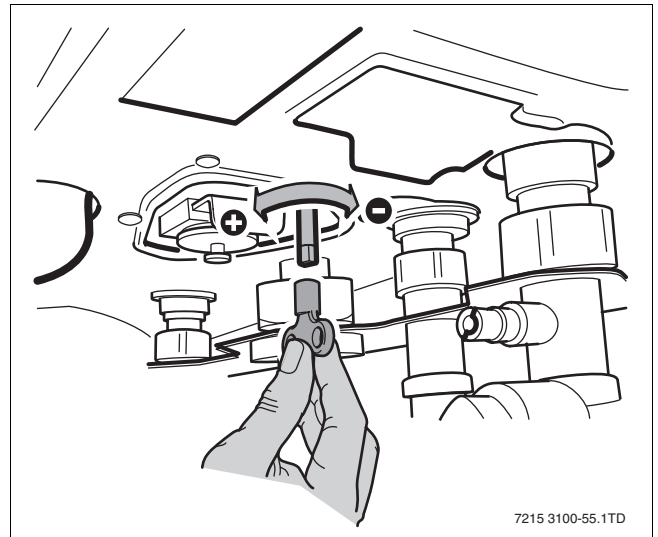

Fig. 55 DHW flow regulator
The DHW flow regulator is located on the bottom frame of the boiler (→ fig. 55).
- Adjust the DHW flow regulator (fig. 55) to the desired setting: